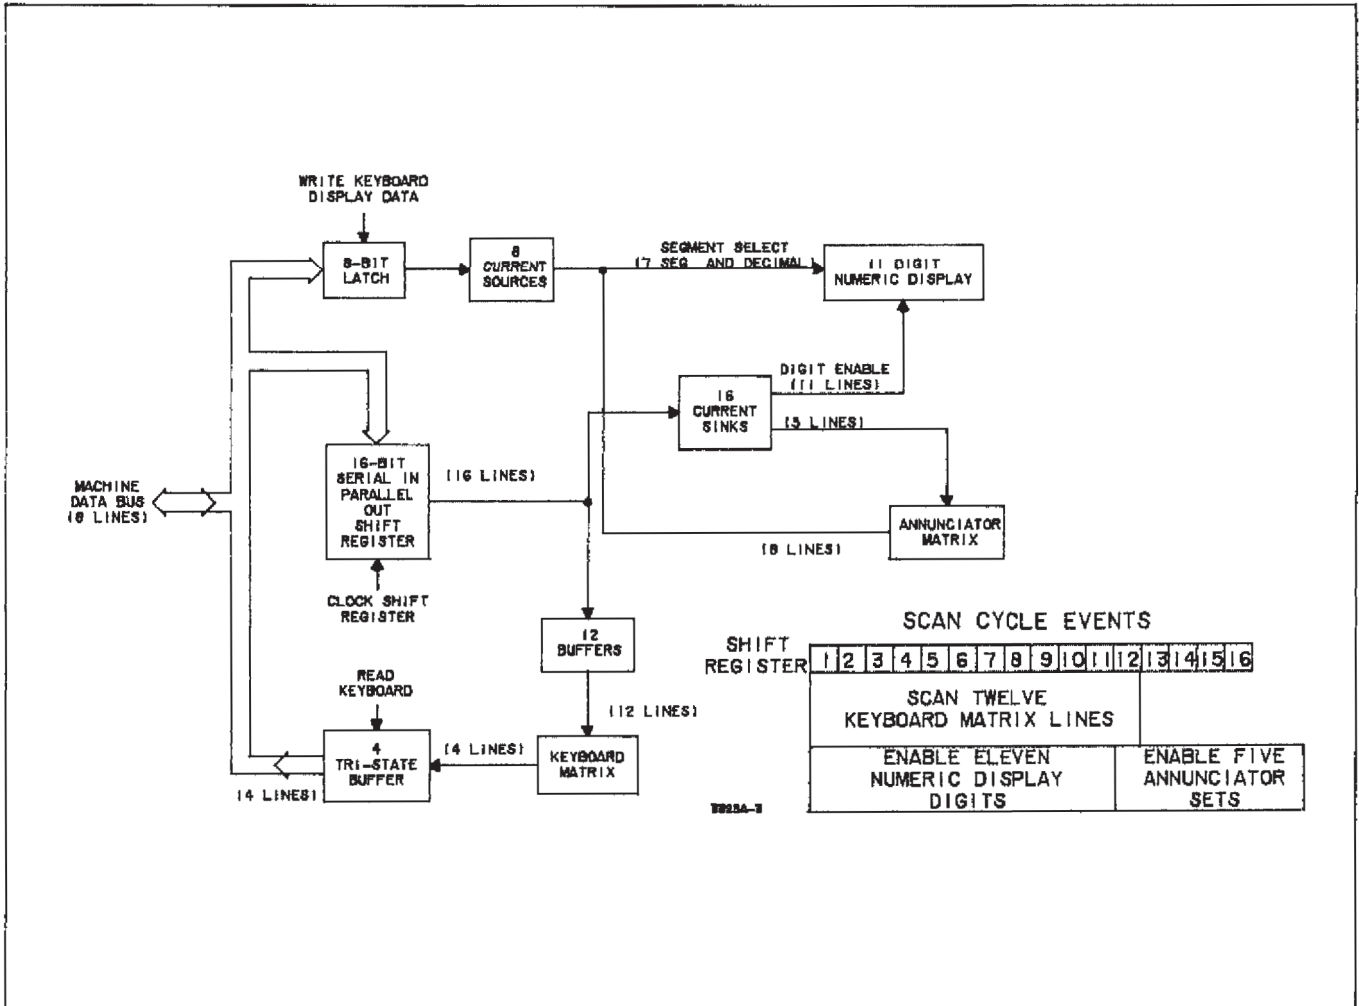

Figure 8-3. Keyboard and Display Block Diagram.
**8-8. Keyboard Scan.** Figure 8-3 is a block diagram of the Keyboard and Display circuits. To determine if a key has been pressed, a single high bit is shifted into the first position of the 16-bit register, and the four-line output of the keyboard matrix is read onto the machine data bus by the Read Keyboard clock signal. The high bit is then shifted one position in the register and the keyboard matrix output is read again. This process is repeated through the twelve input lines to the matrix. The high input bit is inverted by the keyboard buffers. A low level on one of the four matrix output lines indicates that a key has been pressed, and the control circuits initiate the proper action. After a low level has been detected, the control circuits look for a high level from the same key before the same action can be repeated. In other words, if the 5 key has been pressed, only one 5 will be processed even though the key is held through more than one keyboard scan cycle.
**8-11. Scan Cycle.** Approximately 21 milliseconds are required for a complete scan of the Keyboard and Display. During each scan cycle, the events shown in Figure 8-3 happen concurrently.